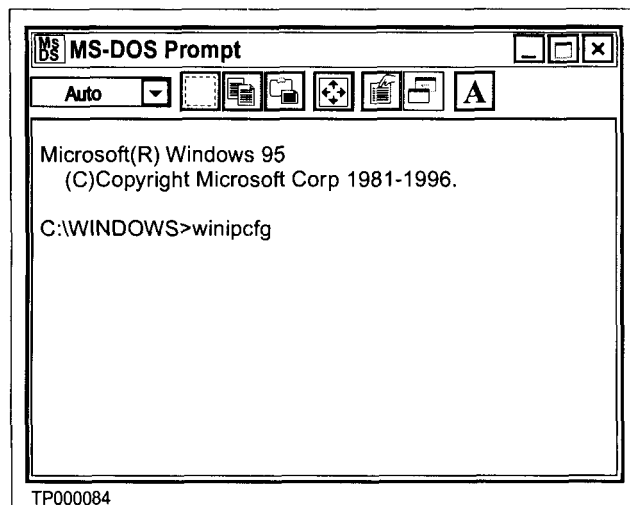

Figure 3
B. When the MS-DOS Prompt window appears, after C:\WINDOWS> type: winipcfg (see Figure 3).